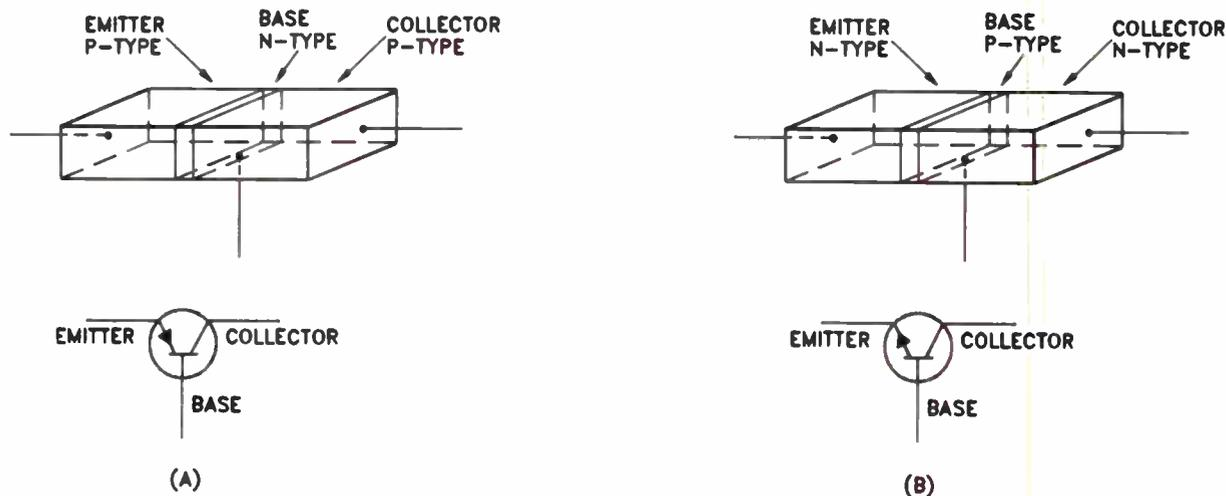

Figure 1. (A) A pnp junction transistor and its schematic symbol. (B) An npn junction transistor and its schematic symbol.
The two-junction transistor is made from a single crystal having three regions. The center region is made of either n-type or p-type material. The two end regions are made of the opposite type material. Figure 1(A) shows one type of transistor where the center region is made of n-type material. The center region is called the *base*. At one end is the *emitter*, and at the other end is the *collector*. Both ends are made
Figure 1(B) shows another transistor where the base is made of p-type material and the emitter and collector are made of n-type material. This type of transistor is called an *npn transistor*.
Figure 1 also shows the schematic symbols used to represent both types of transistors. Notice that in the pnp type, the arrow on the emitter points toward the base, while in the npn transistor, the arrow on the emitter points away from the base. It is important that you remember the names of the three parts of the transistor, as well as the schematic symbols used for pnp and npn transistors.